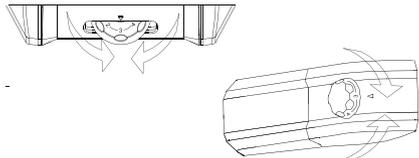

Fig.18
- Normally it is not necessary to intervene with the thermostat knob. If you find excessive cooling of the products contained in the refrigerator compartment, gently turn the thermostat knob toward 0. (fig. 18)